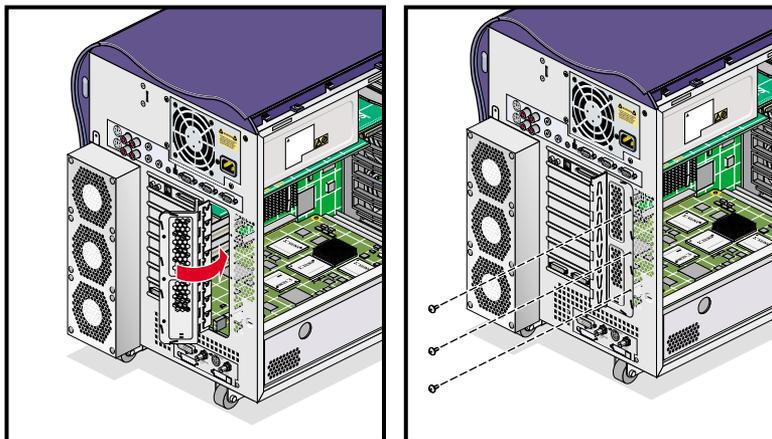

Figure 3-21 Closing the PCI Gate
3. Ensure that the IO9 board is properly aligned in the PCI gate. Then close the gate and install the three screws that secure it to the enclosure (see Figure 3-21).